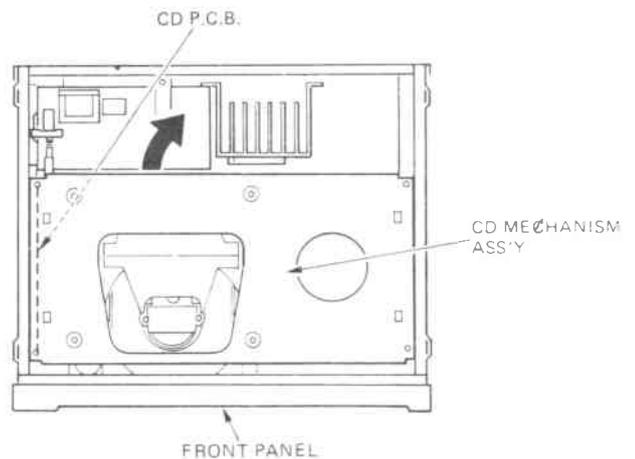

Fig. 3
- 2) Draw back the CD mechanism ass'y while lifting it up. Be careful because the loading cassette protrudes at the front. (Fig.3)